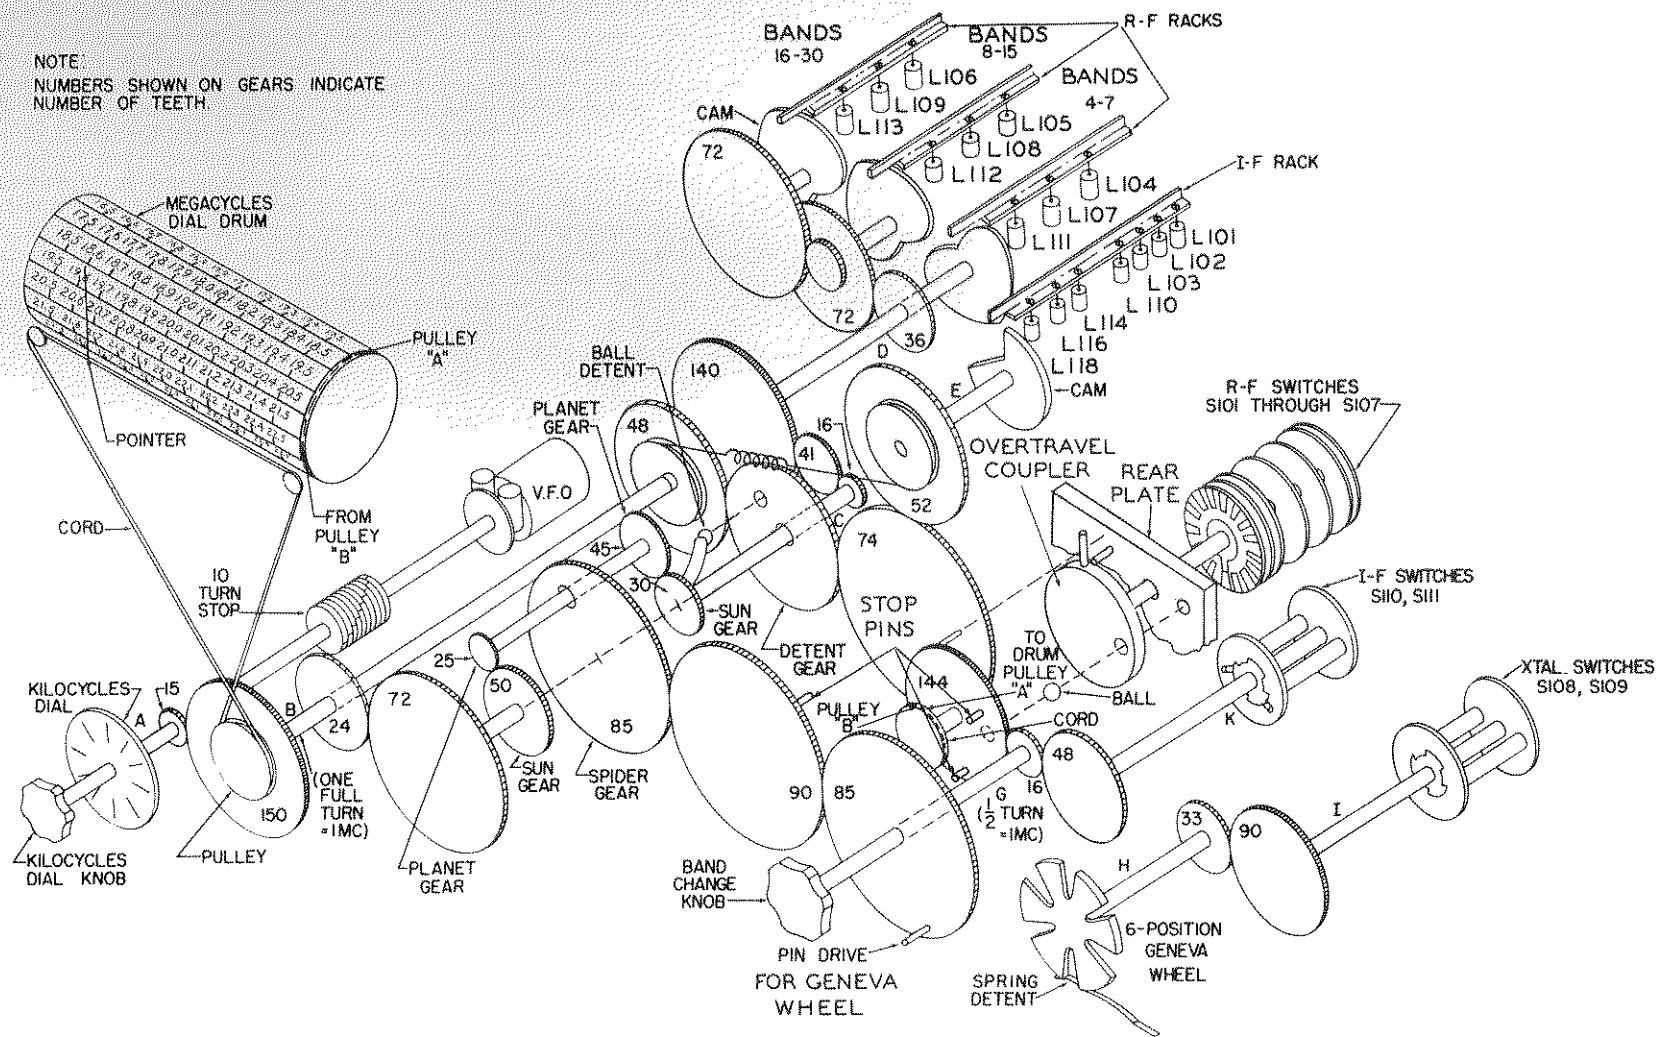

Figure 4-2. 511-3 Mechanical Block Diagram
Switch sections of the band switch are ganged with the three slug tables through an over-travel coupler. This overtravel coupler drops the band switch at band 16 and continues to operate one position for each band as usual. Refer to figure 4-2. This mechanical diagram shows the gears and connecting shafts associated with band change and tuning. Shafts associated with changing bands are C, D, G, H, I, K, and the overtravel shaft. On band 1 radio frequency coils L101 and L110 are switched by means of the BAND CHANGE knob through the overtravel shaft and shaft G.
4.1.2. TUNING. - All r-f, mixer and variable i-f coils, as well as the variable frequency oscillator coil, are permeability-tuned by powdered iron cores. While tuning, these slugs move in and out of the coils at a rate determined by a cam or by a lead screw. Four slug racks or tables are used in the 5LJ-3 receiver to perform the function of tuning the r-f, mixer and variable i-f stages. The group of three slug tables in the rear portion of the chassis tunes the r-f and first mixer stages when the receiver is operating in the 3.5 to 30.5 mc frequency range (bands 4 to 30). The fourth slug table, located at the right hand edge of the receiver, tunes the r-f stage, the first mixer grid, the third mixer grid and the variable i-f coils when receiving in the range 0.5 to 1.5 mc. It tunes the r-f stage and variable i-f coils L116 and L118 when receiving in the range 1.5 to 2.5 and 2.5 to 3.5 mc. When receiving in the range 3.5 to 30.5 mc, this slug table tunes only the variable i-f coils L116 and L118. During tuning, positions of the slug tables are varied by a system of gears and cams; see figure 4-2. On band 1 (0.5 to 1.5 mc) coils L101 and L110 are tuned through this frequency range by the main tuning knob through shafts A, B, C and E. On bands 2 and 3 (2.5 to 1.5 and 3.5 to 2.5), tuning is done by the main tuning knob through the same shafts -- A, B, C and E. On band 4 to 7, the main tuning knob tunes coils L104, L107, and L111 over one-fourth of their tuning range through shafts A, B, C and D and the differential shafts. The BAND CHANGE knob moves this same rack through shafts G, C, D, and the differential in four steps. Each step is equal to one-fourth of the coils' tuning range and the shafts are positioned by means of the detent. Thus L104, L107, and L111 are tuned in one megacycle steps by the BAND CHANGE knob, and between these steps are tuned by the main tuning